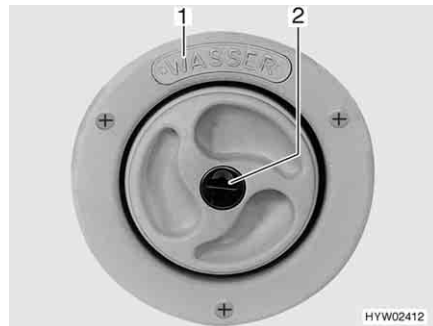
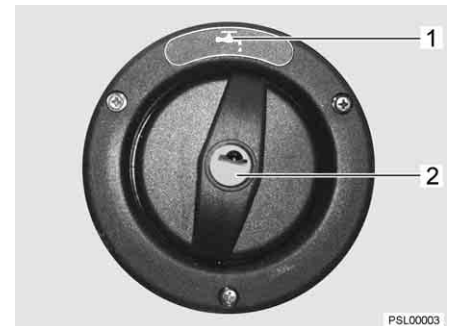

Fig. 199 Cap for the drinking water filler neck
Fig. 200 Cap for the drinking water filler neck (alternative)
(Fig. 199,1) or marked by the symbol "⚙️" (Fig. 200,1). The cap is open and closed using the key for the external flap locks.
- Insert key into locking cylinder (Fig. 199,2 or Fig. 200,2) and turn a quarter turn in an anticlockwise direction.